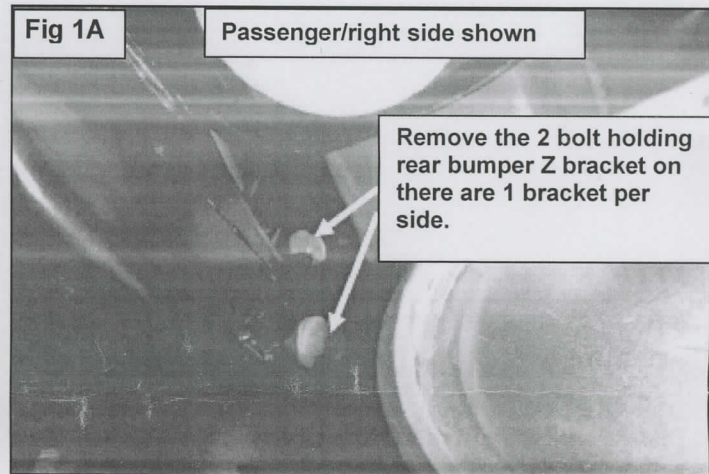

Fig 1B
2. Start by removing the (2) 10mm fasteners holding the corners of the bumper support bracket to the frame, they are located on the inner rear of wheel wells (**Fig 1**) shows passenger right side bolts, Repeat for Driver/Left side with these bolts removed begin to remove the center bumper bolts holding the Z brackets located just up & behind the cross bar, 2 bolts per Z brackets as seen in (**Fig 1A**) shows passenger side Z bracket. (**Fig 1B**) shows zoomed in view of passenger side Z bracket. Repeat for Driver/Left side